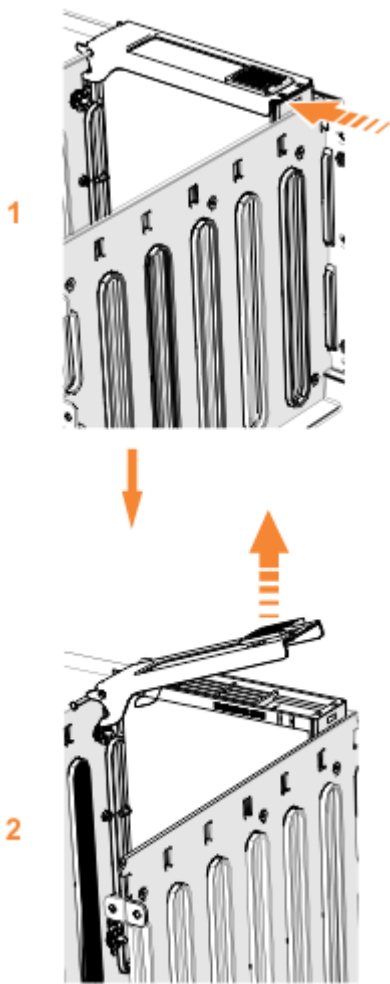

Figure 112. Remove the drive assembly
5. Slide the release latch forward (1), as shown in Figure 112 on page 96.
6. Lift the handle (2) to unlock the drive carrier from the partition, as shown in Figure 112 on page 96. Ensure the toe on the bottom of the latch is fully disengaged.